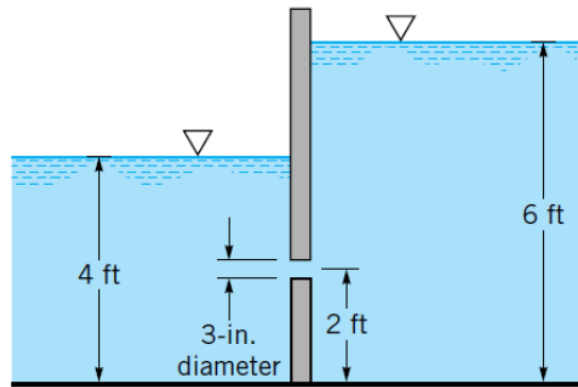

Figure 6
- 7- Determine the flow rate through the submerged orifice, shown in figure 6 if the discharge coefficient is 0.68.